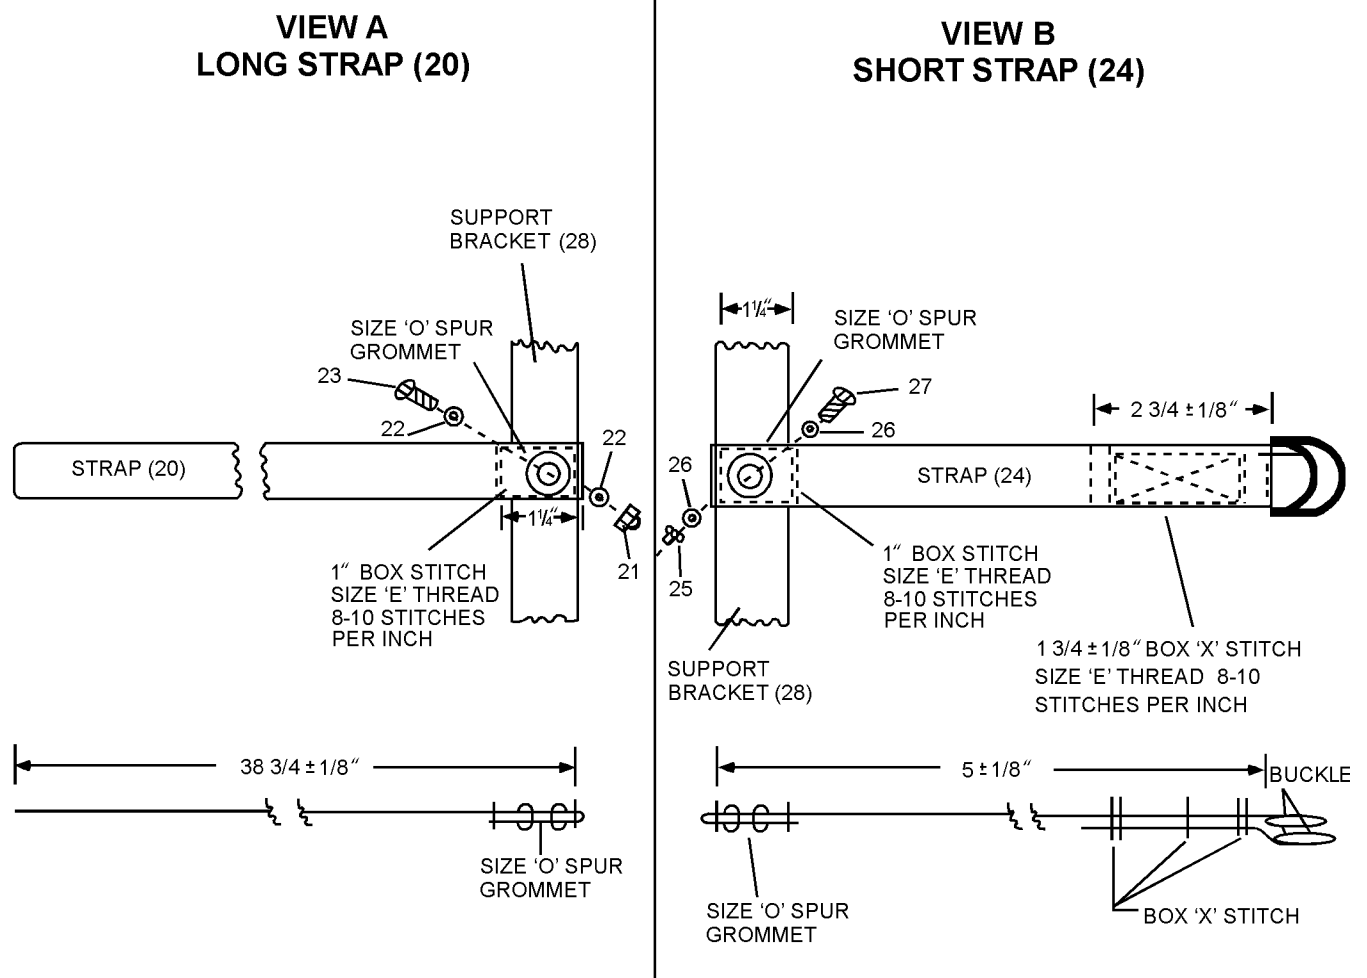

Figure 14-4. Short and Long Strap
- 1. Fabricate short strap assembly (24) as per figure 14-4, view B.
- 2. Fabricate long strap assembly (20) as per figure 14-4, view A.